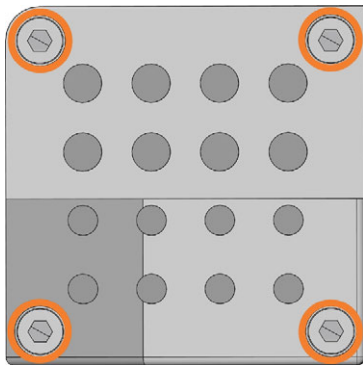
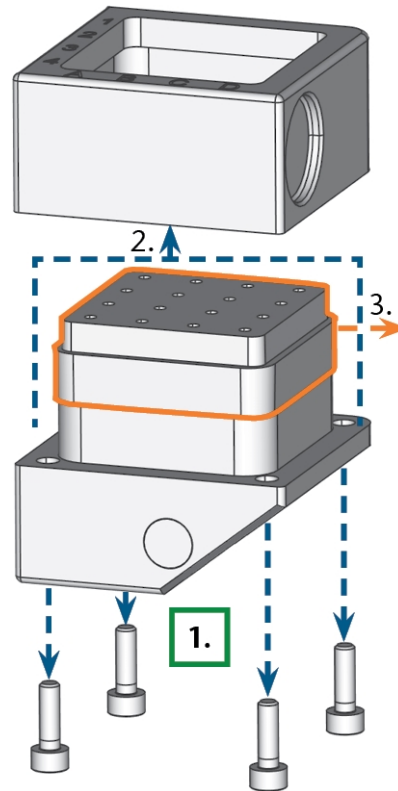

FIG. 114 THE 4 SCREWS ON THE BOTTOM SIDE OF THE TOOL MAGAZINE (MARKED ORANGE)
FIG. 115 DISASSEMBLING THE TOOL MAGAZINE AND REMOVING THE INSERT
5. Unscrew the 4 screws on the bottom side of the tool magazine (↗ Fig. 114 see below, ↗ Fig. 115 see below, step 1).
6. Lift the cover off the magazine (↗ Fig. 115 see below, step 2).
7. Remove the existing tool magazine insert (↗ Fig. 115 see below, step 3) and replace it with a new one.